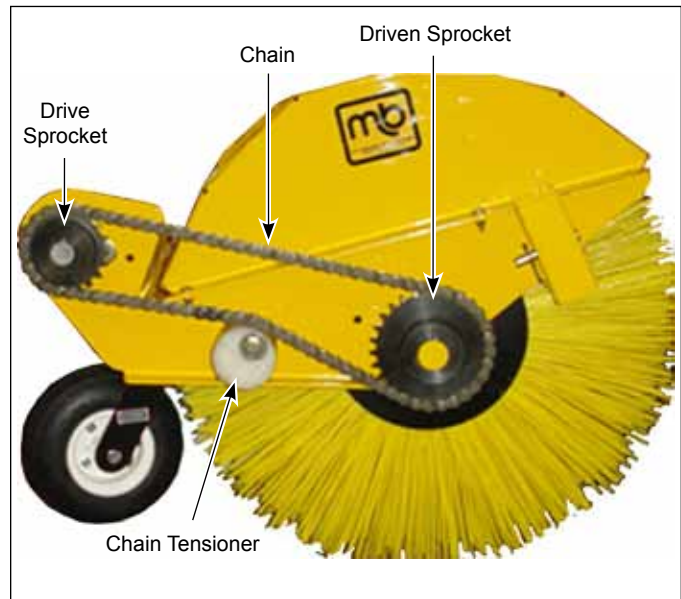

Figure 2
4. Confirm adjustment by running the broom for about 30 seconds in the down position while stationary. Stop the broom and back the unit away. The 'cleaned' area (contact patch) should be 2"-4" wide for the entire length of the broom. See Figure 2.
3. Loosen 1/2-13 x 3-3/4" socket head capscrew attaching chain tensioner and rotate tensioner until chain is slack. See Figure 2.
5. Rotate tensioner against chain to remove slack and then tighten 1/2-13 x 3-3/4" socket head capscrew to secure tensioner in position. See Figure 2.